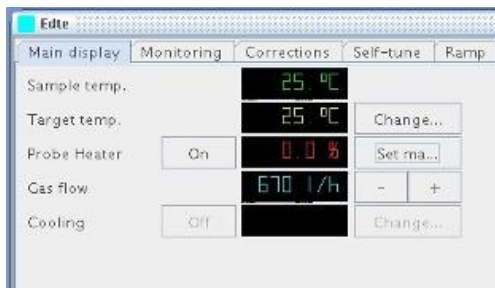

Figure 3. The main display of the edte window showing increased gas flow.
6. In order to accelerate the response of the temperature regulation system, we increase the gas flow. If going to high temperatures, you can increase to 670 l/h (Fig. 3), although it is OK to use less. Click the + button once and see if that is enough to get to the desired temperature in a reasonable time.